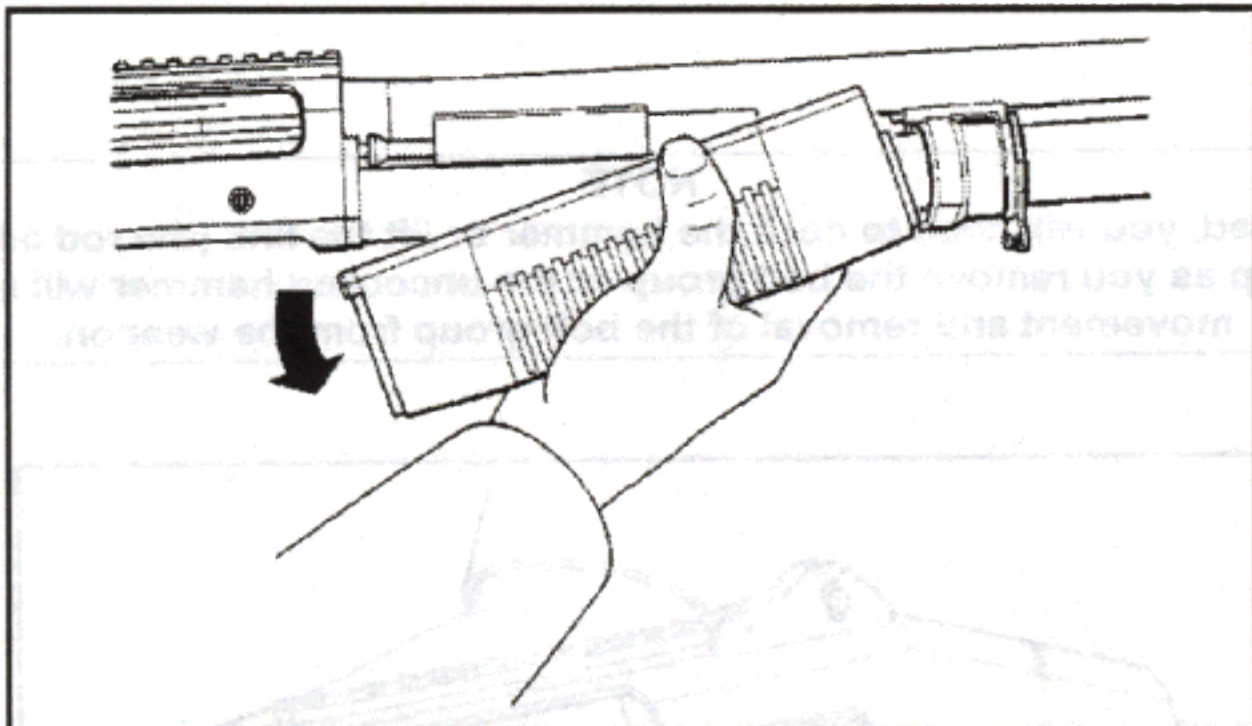
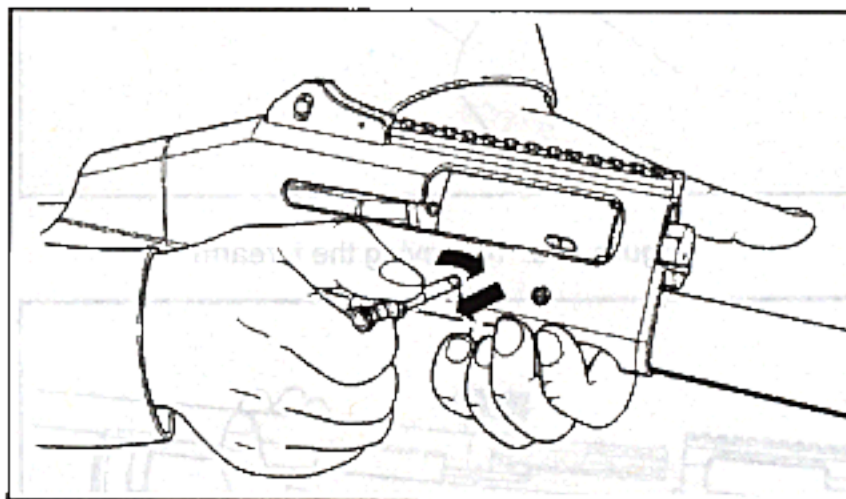

**Figure 15. Magazine spring seal removal**
Figure 17. Removing the bolt handle from the bolt group
5. **Remove magazine components** – Remove handle from bolt group (**Figure 17**). Use the bolt handle to remove the magazine spring seal ring, the magazine spring, and follower from the magazine tube (**Figure 15**).
7. **Remove bolt** – Grasp the bolt handle and pull it out of the bolt carrier by pushing in and rotating it. Remove the bolt group from the receiver (**Figures 17 and 17a**).